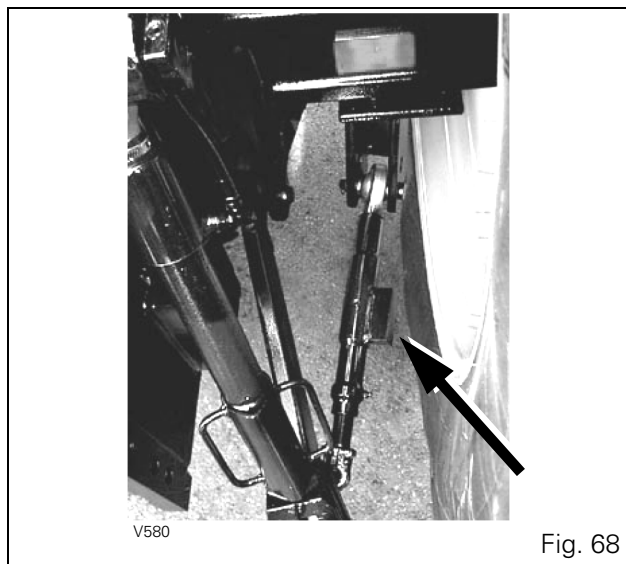

Fig. 68
- Unscrew stabilisers (Fig. 68) until drawbars have no lateral oscillation and are centralised.